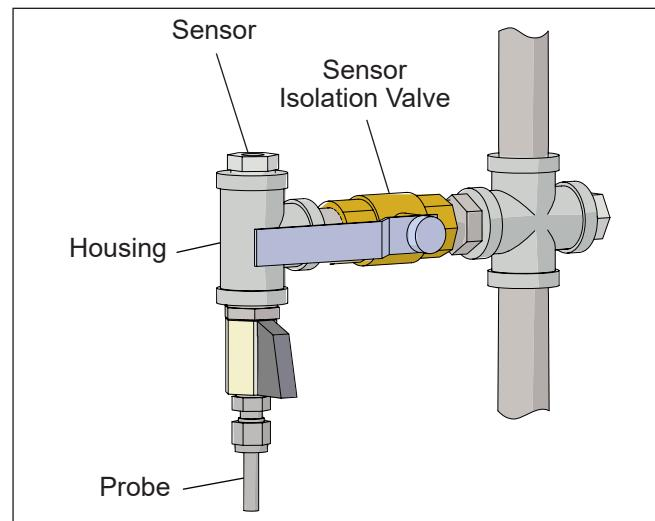

Figure 5.11 –
1. Install and connect the dew point sensor if it was not installed at the factory. The sensor is generally shipped separately or within the low voltage controller box to prevent damage in shipping. Installation location will vary by model. Figure 5.11 shows an example of an installation location.